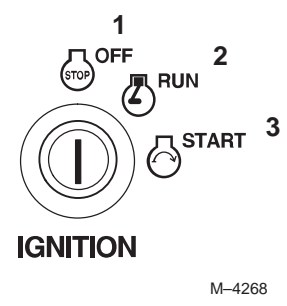

Figure 18
- Turn ignition key to start to energize starter. When engine starts, release key (Fig. 18).
- Let the engine idle for 60 seconds (Fig. 18).
- Turn the ignition key to off (Fig. 18).